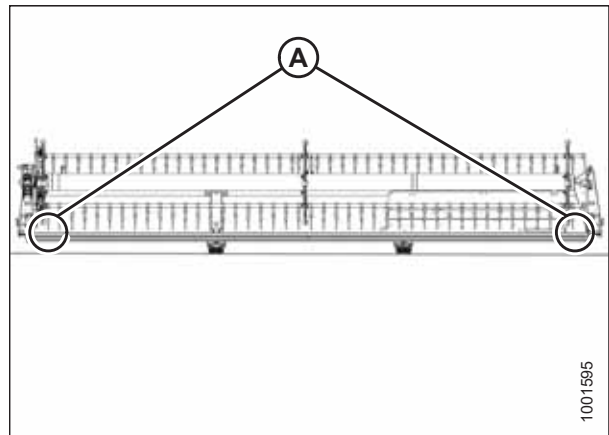

Figure 4.262: FlexDraper® Measurement Locations – Single Reel
- Single-reel headers: Figure 4.262, page 714